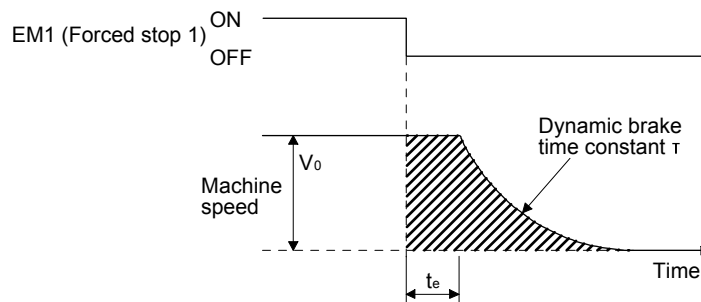

Fig. 15.3 Dynamic brake operation diagram
Fig. 15.3 shows the pattern in which the servo motor comes to a stop when the dynamic brake is operated. Use equation 15.1 to calculate an approximate coasting distance to a stop. The dynamic brake time constant  $\tau$  varies with the direct drive motor and machine operation speeds. (Refer to (1) (b) in this section.)